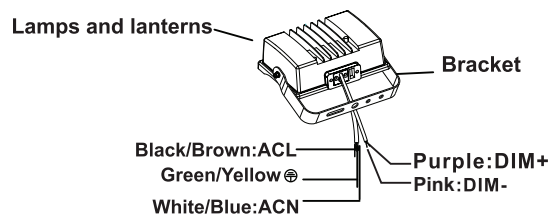

Fig. 9
- 7.) Connect the AC input wires coming from the mounting bracket to the power supply wires (**Fig. 9**).